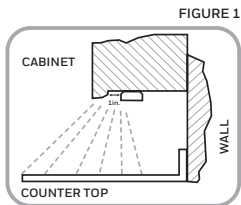

FIGURE 1
2. Carefully plan the installation prior to mounting the Bright Strips. Make sure the 5ft. power supply cord will reach the nearest electrical outlet and the 18in. linking cord will reach the first Bright Strip. For kitchen installations, the recommended mounting for the Bright Strips is under the cabinets 1in. from the front lip (see Figure 1). This provides the best light distribution across a countertop.